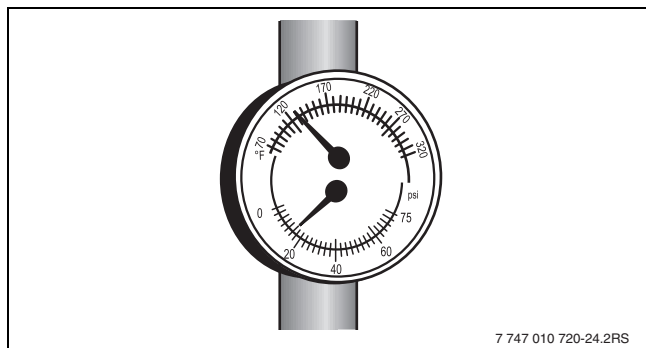

Fig. 6 Pressure/temperature gauge
- ▶ Carefully open the water tap and slowly fill the heating system. Observe the pressure reading on the pressure/temperature gauge (→ Fig. 6).